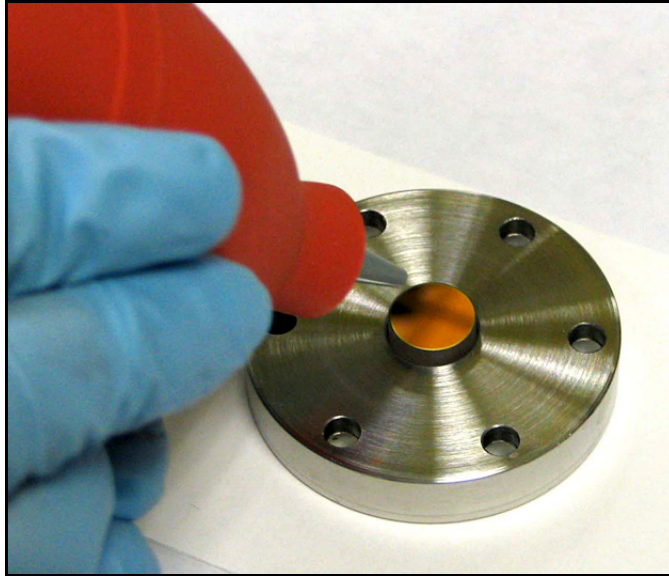

Figure 85: Drying the Mirror
6. Use the air blower to blow dry air onto the surface of the mirror. Puff repeatedly until the mirror surface appears dry (see Figure 85 below).
8. Use the air blower to blow dry air onto the surface of the mirror while holding it with the tweezers. Puff repeatedly until the mirror surface appears dry (see *Figure 85 on page 104*).